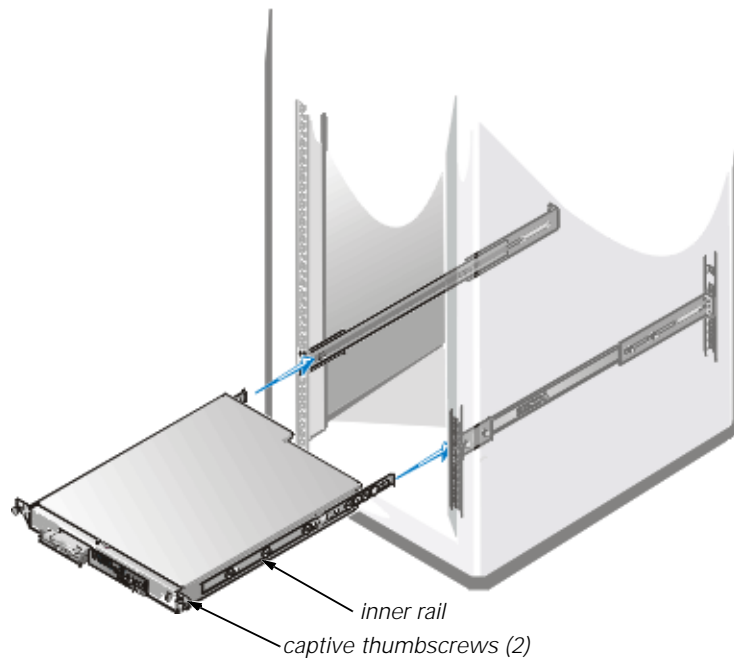

Figure 18. Installing the Computer in the Rack
3. Align the inner rails you installed on the sides of the system with the open portion of the slide assemblies (see Figure 18).
4. Push the computer into the slide assemblies until the system stops (see Figure 18).